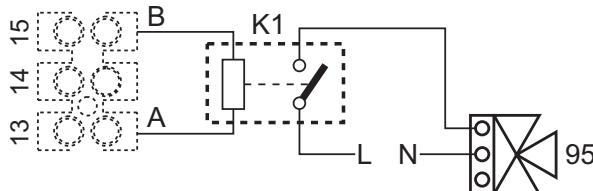
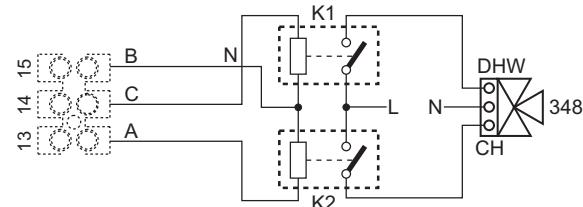

fig. 92- Connection of the 3-way valve with 2 wires
fig. 93- Connection of the 3-way valve with 3 wires
**ATTENTION:** To connect the 3-way valve (terminals 13 - 14 - 15), refer to the diagrams of fig. 92 and fig. 93.